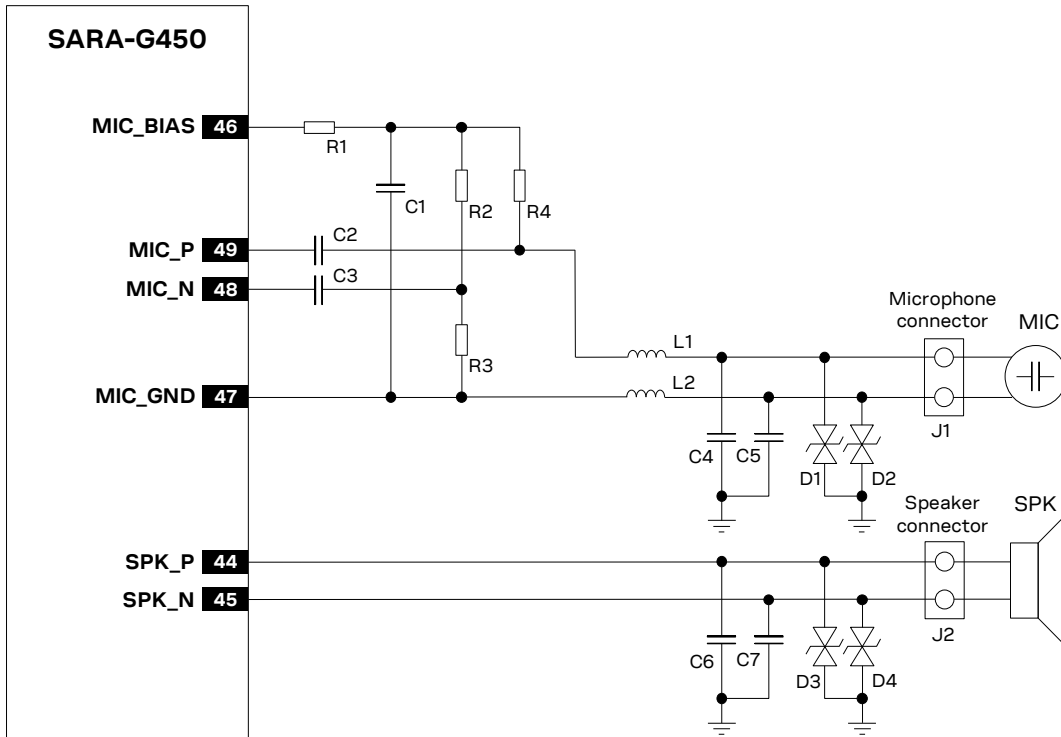

Figure 69: Analog audio interface application circuit
Figure 69 shows an application circuit for the analog audio interface, connecting a 2.2 k Ω electret microphone and a 32 Ω receiver / speaker:
As in the example circuit in Figure 69, follow the general guidelines for the design of an analog audio circuit:
- Provide an appropriate series capacitor at both **MIC_P** and **MIC_N** analog uplink inputs for DC blocking (as the C2 and C3 100 nF Murata GRM155R71C104K capacitors in Figure 69). This provides a high-pass filter for the microphone DC bias with a corresponding cut-off frequency according to the value of the resistors of the microphone supply circuit. Then connect the signal lines to the microphone.
- Mount an 82 nH series inductor with a Self-Resonance Frequency $\sim$ 1 GHz (e.g. the Murata LQG15HS82NJ02) on each microphone line (L1 and L2 inductors in Figure 69).
- Mount a 27 pF bypass capacitor (e.g. Murata GRM1555C1H270J) from each microphone line to solid ground plane (C4 and C5 capacitors in Figure 69).
- Mount a 27 pF bypass capacitor (e.g. Murata GRM1555C1H270J) from each speaker line to solid ground plane (C6 and C7 capacitors in Figure 69).
- Provide additional ESD protection (e.g. Bourns CG0402MLE-18G varistor) if the analog audio lines will be externally accessible on the application device, according to EMC/ESD requirements of the custom application. Mount the protection close to accessible point of the line (D1-D4 in Figure 69).